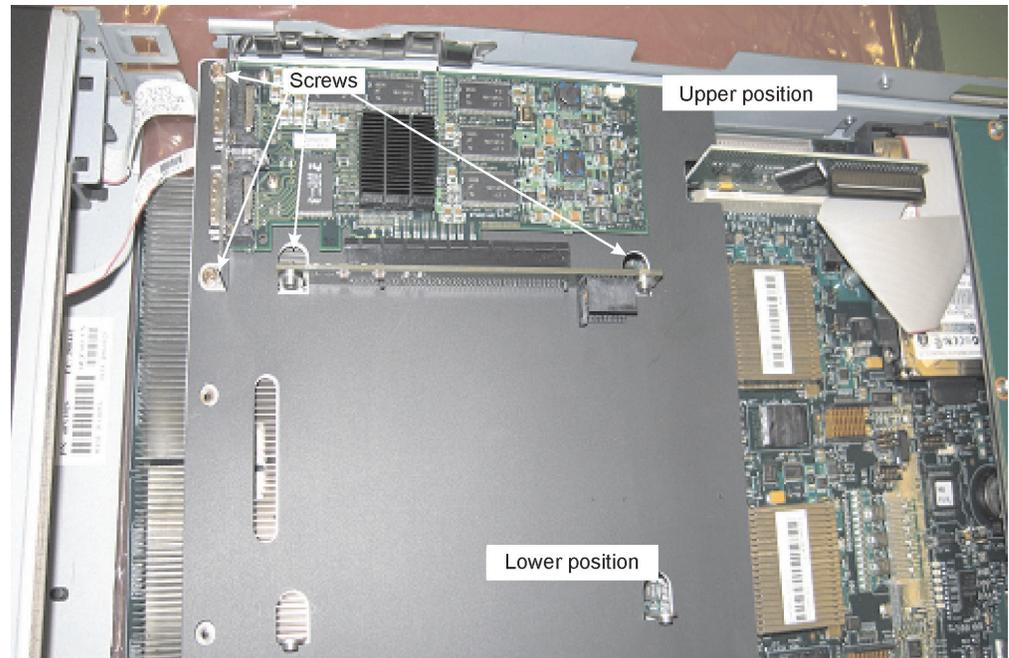

Figure 14. Mounting point and position description
10. Secure the assembly with the four screws that were delivered with your InfiniBand card, see Figure 14 on page 51.